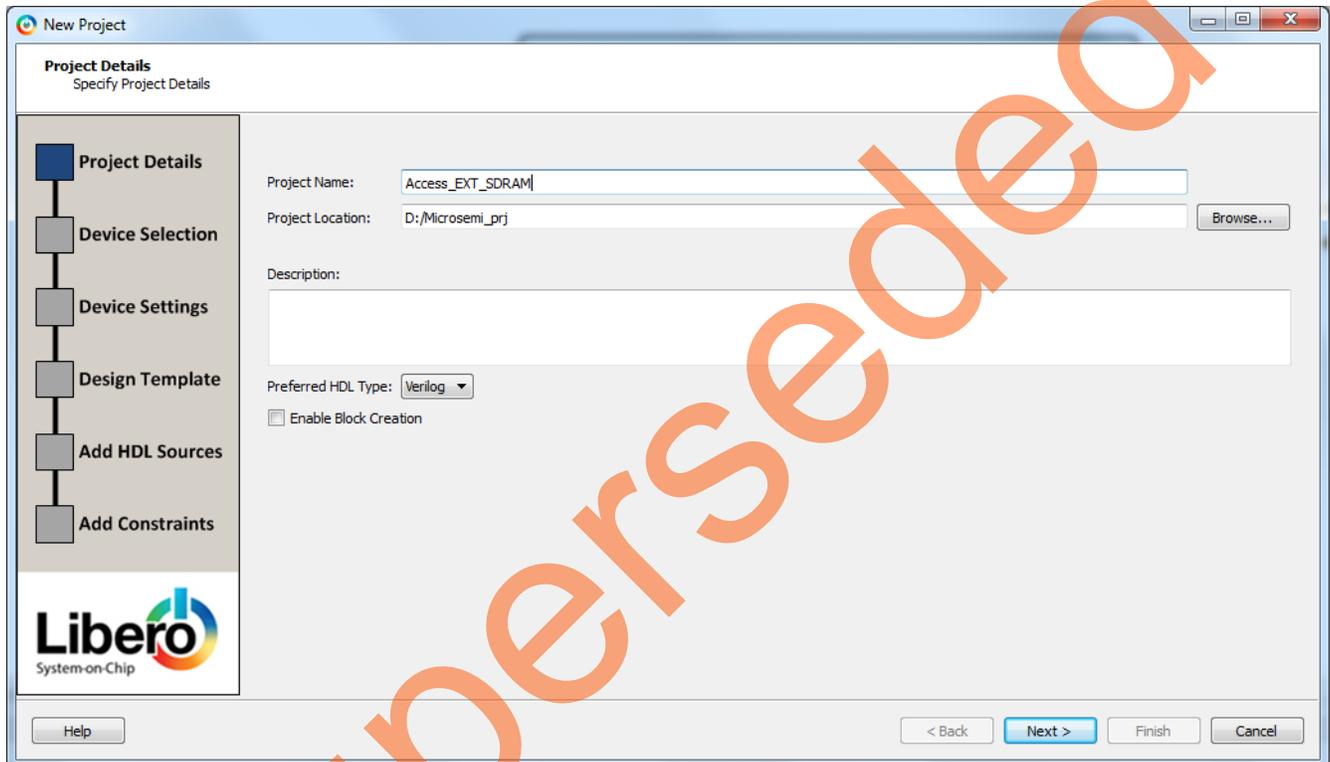

Figure 2. New Project – Project Details Page
3. Enter the following information in the **Project Details** window, as displayed in Figure 2.